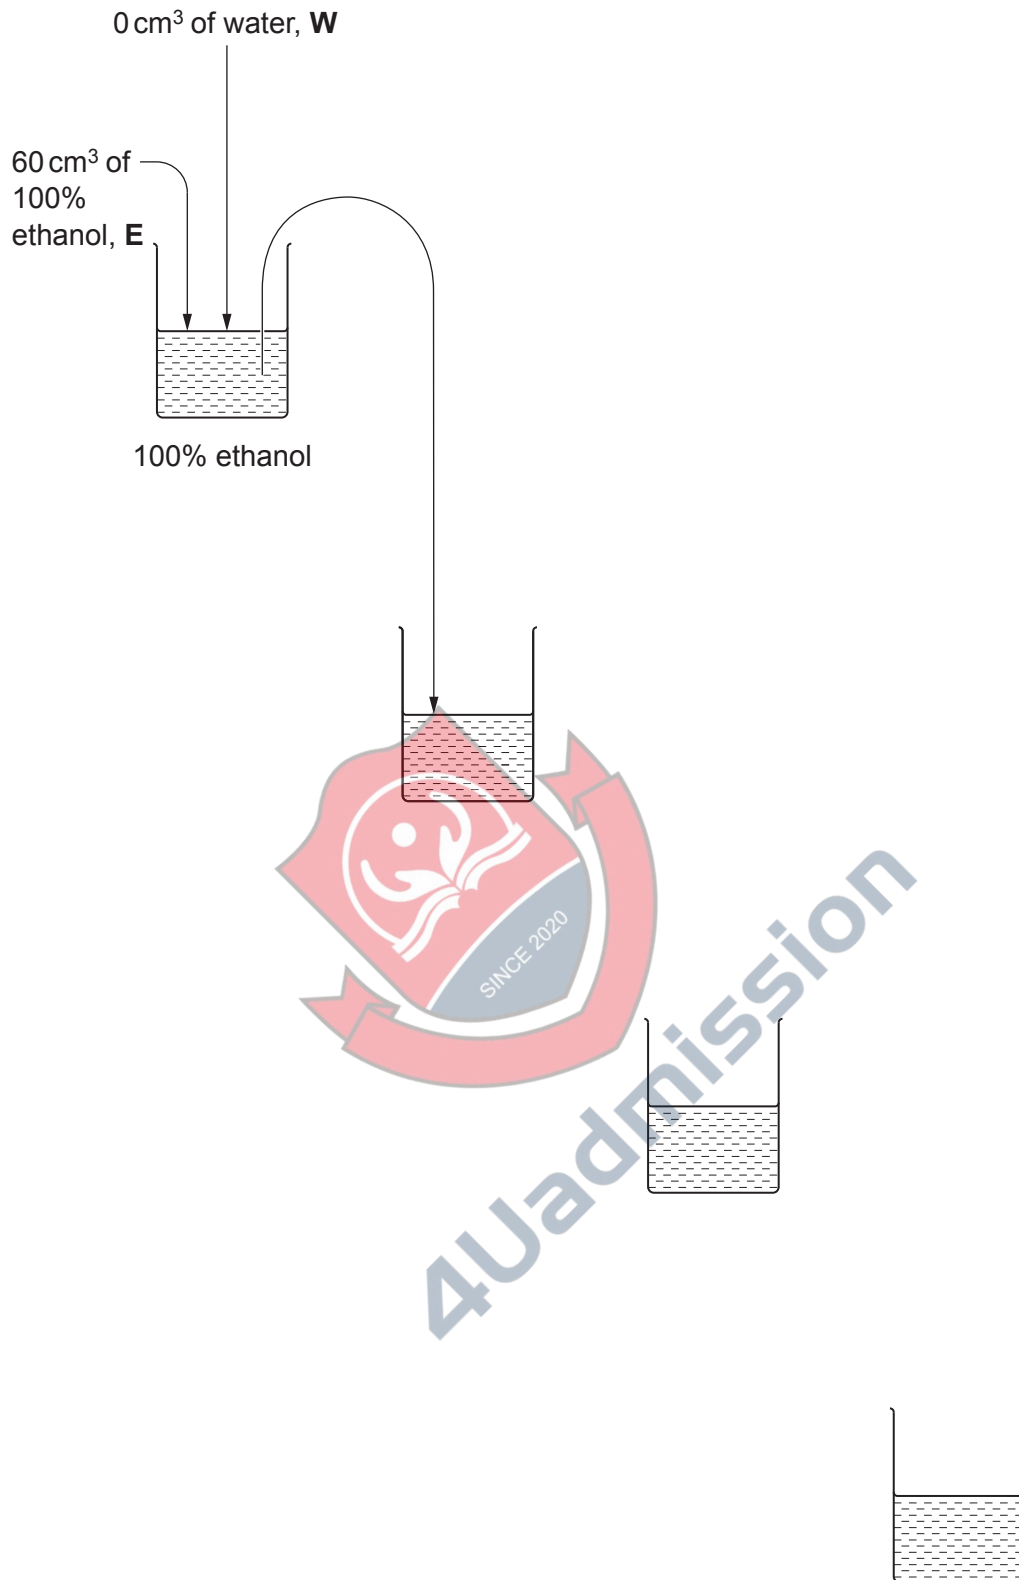

Fig. 1.2
- (ii) Complete Fig. 1.2 to show how you will prepare your serial dilution.
step 8 Prepare the concentrations of ethanol as shown in Fig. 1.2.